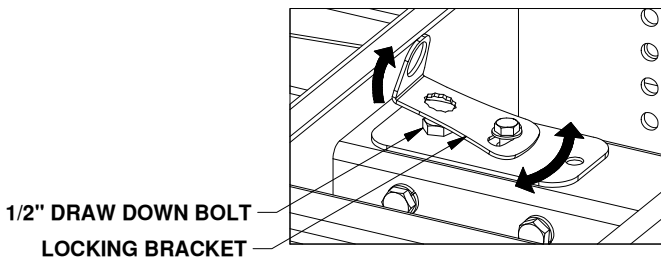

Figure C2: View of top of base.
6. Secure the base to the truck bed by **first** tightening the eight 1/2" cap screws attaching the socket post into the center of the base to 80 ft-lbs. **Second**, tighten the 1/2" x 3" draw-down bolt to 60 ft-lbs. Lock the draw down bolt in place by swiveling the locking bracket over the draw down bolt, see figure C2.